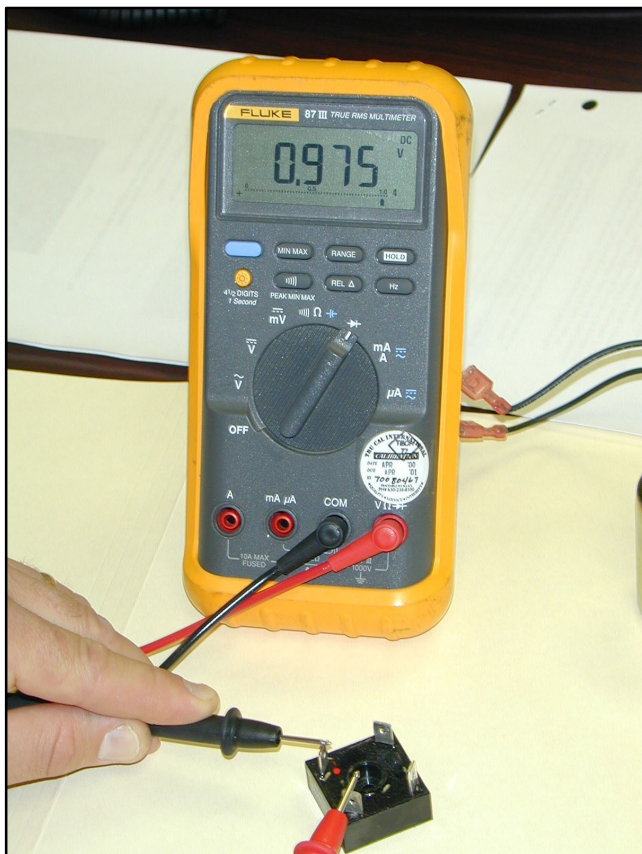

Figure 7-89 Checking Rectifier Diode Operation
- Check the diode operation of the rectifier. See Figure 7-89 and Section 5.8.4 for rectifier test instructions. If the rectifier is bad, replace it. If the rectifier is good, proceed to step 9.